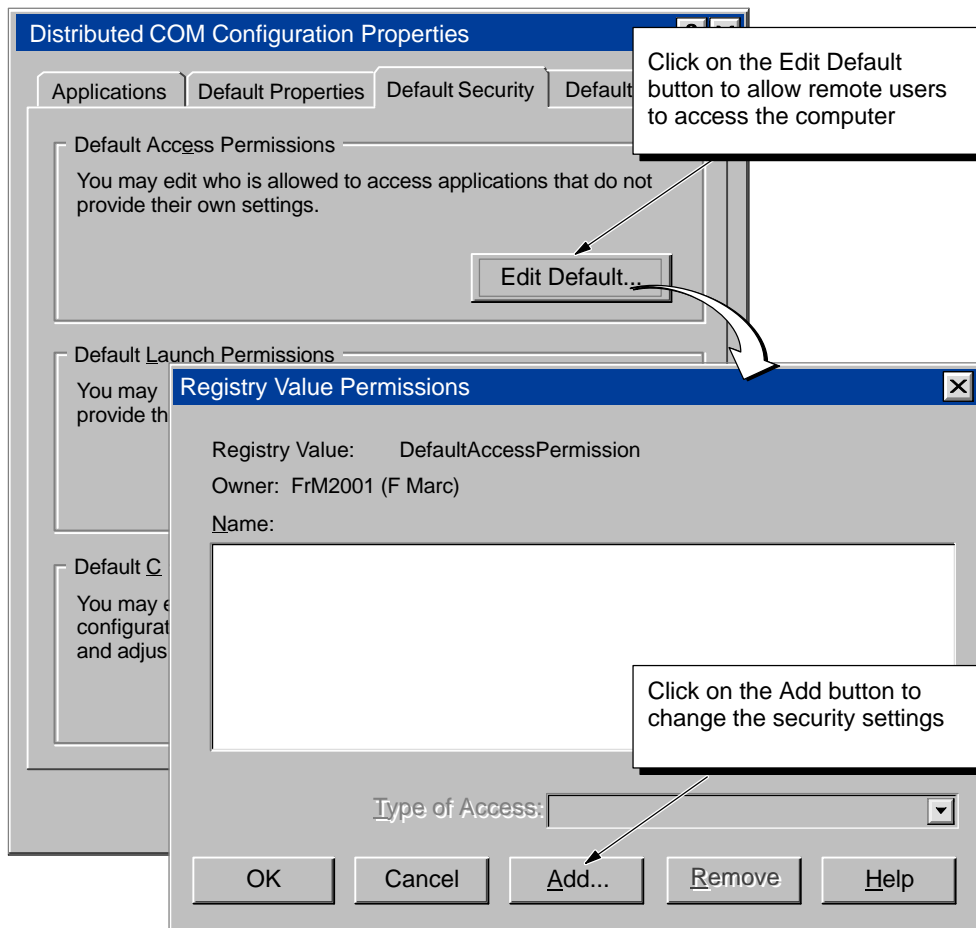

Figure D-14 Configuring the Default Access Permissions for DCOM
1. Click on the Default Security tab to display the security options for DCOM. See Figure D-14.
8. Click on the OK button of the Registry Value Permissions dialog box to enter the changes to the default access permissions. The Registry Value Permissions dialog box closes and displays the Distributed COM Configuration Properties dialog box (Figure D-14).